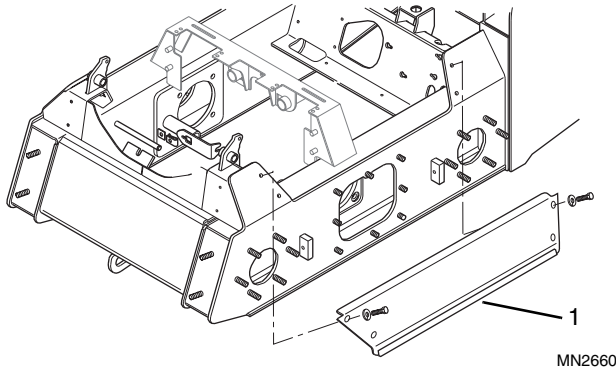

Figure 9-48 Chassis Panel Removal
3. Remove the left (Fig. 9-48, 1) and right (not shown) side panels from the chassis.